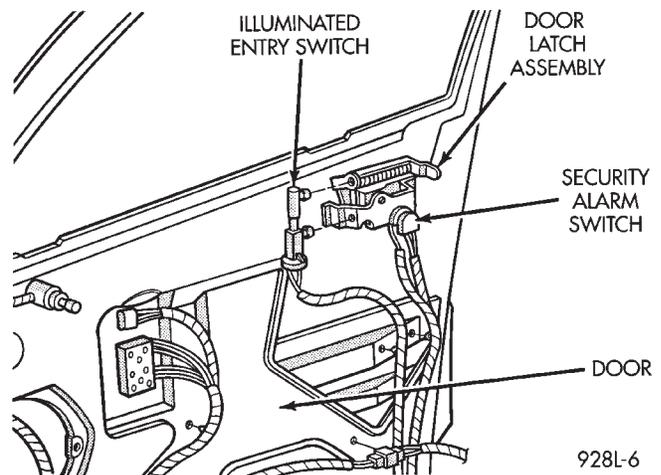
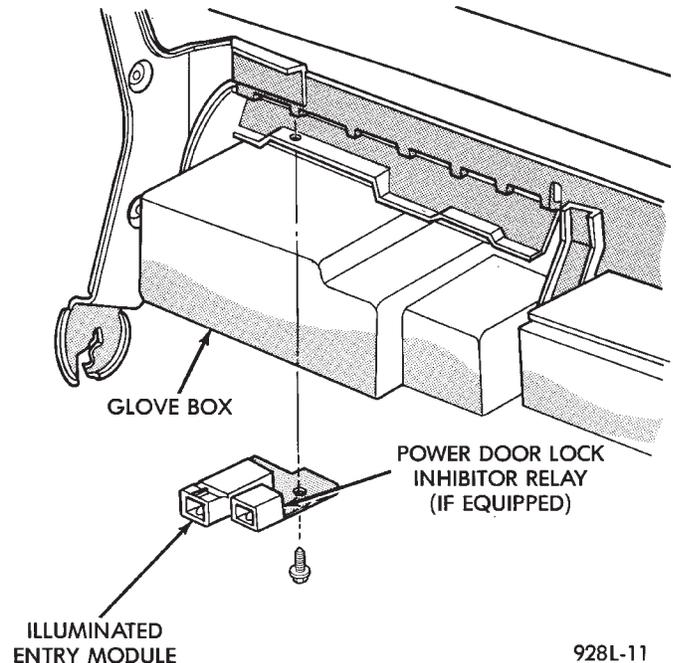
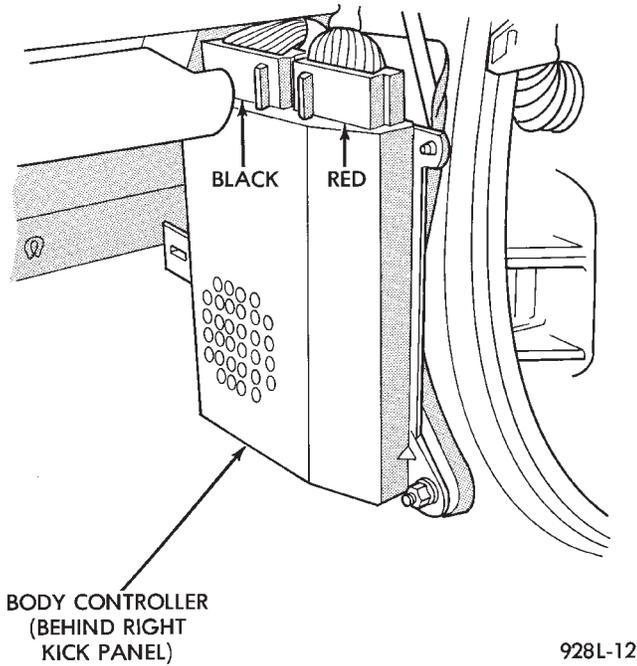

Fig. 1 Illuminated Entry Door Switches—Typical
Fig. 2 Illuminated Entry Module—AA Body
Fig. 3 Body Controller
Front door handle switches (Fig. 1), and the Illuminated Entry Module (located behind and above the glove box (Fig. 2) are used to control the system.
Front door handle switches (Fig. 1), and the Body Controller (Fig. 3) are used to control the system.
- (1) Disconnect the battery negative cable.
- (2) Remove the glove box to gain access to the module (Fig. 2). Refer to Group 8E, Instrument Panel and Gauges.
- (3) Working through the glove box opening, disconnect the wiring connector at the module.
- (4) Remove the module bracket mounting screw.
- (5) Remove the module bracket from the vehicle.
The Body Controller Computer is located at the right front door opening behind the cowl trim panel (Fig. 3).